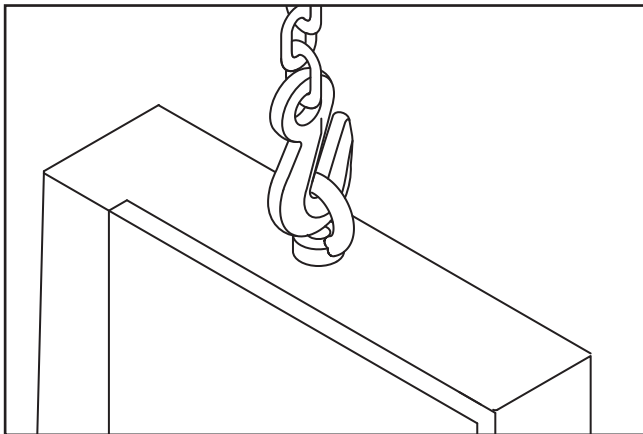

Figure 13. Example of using safety hook and chain to lift the bandsaw.
3. Attach the safety hook and chain between the forklift and the bandsaw lifting eyebolt (see **Figure 13** for an example).